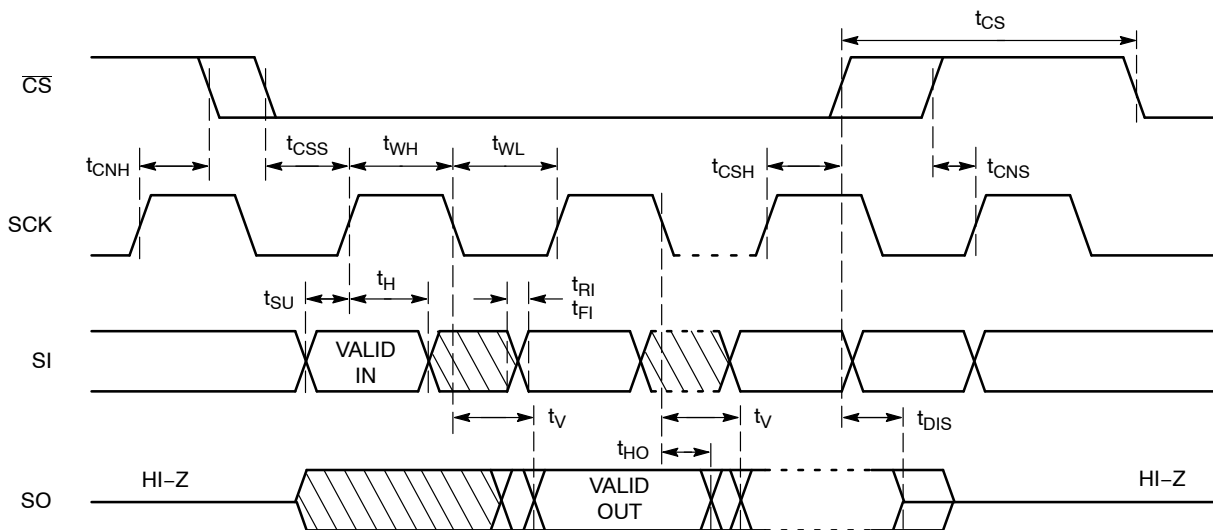

Figure 2. Synchronous Data Timing
- All Chip Select (CS) timing parameters are defined relative to the positive clock edge (Figure 2). t_{CSH} timing specification is valid for die revision C and higher. The die revision C is identified by letter "C" or a dedicated marking code on top of the package. For previous product revision (Rev. B) the t_{CSH} is defined relative to the negative clock edge (please refer to data sheet Doc. No. MD-1111 Rev. I)**
After a high to low transition on the \overline{CS} input pin, the CAT25320 will accept any one of the six instruction op-codes listed in Table 7 and will ignore all other possible 8-bit combinations. The communication protocol follows the timing from Figure 2.